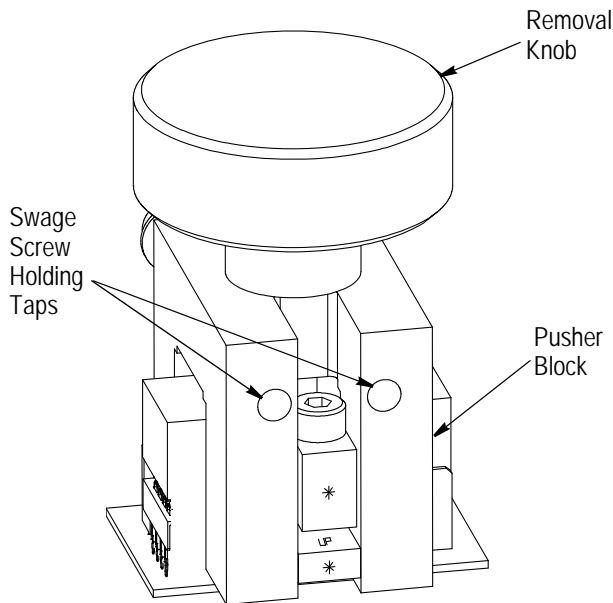

Figure 6
9. Place the pusher block over the swage subassembly and place the removal knob in the pusher block as shown in Figure 6.
13. Loosen the swage screws to remove the wedge block from the swage block. The swage screws can be stored in the swage screw holding taps on the pusher block. See Figure 6.